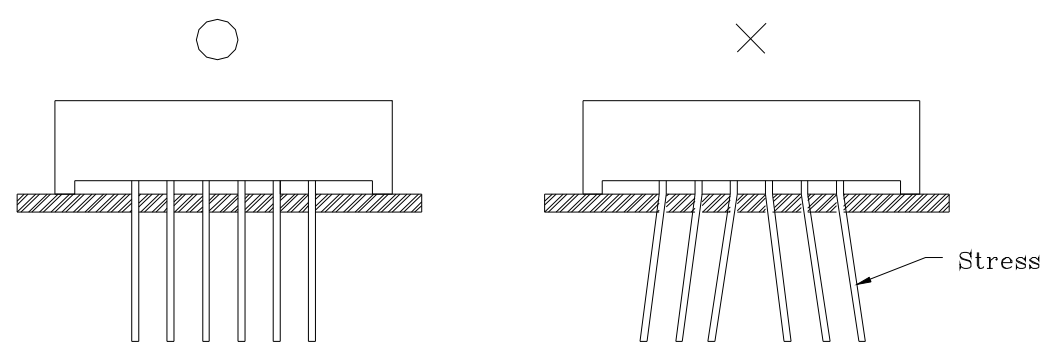

Fig.6
- 3) Form the PIN of ensure alignment between the PIN and the hole on board, so that stress against the Display is prevented. (Fig.6)